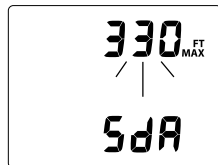

Fig. 24 - SET DEPTH ALARM
**SET DEPTH ALARM**, information includes (Fig. 24):